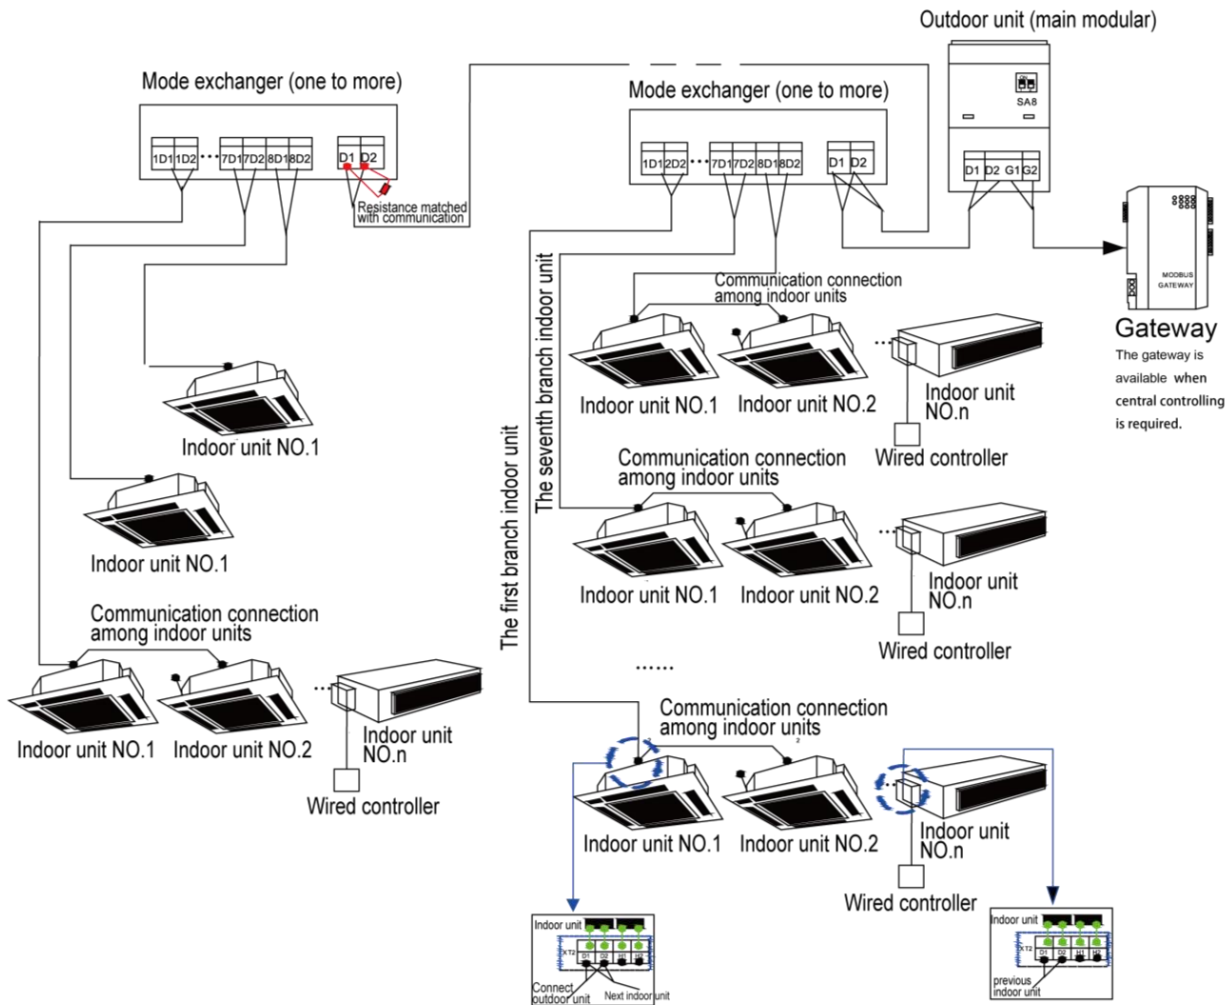

Fig. 5.11
- (1) Open electric box cover of indoor unit.
- (2) Pass the communication wire through rubber ring.
- (3) Connect communication wire to wiring board OD(D1, D2) of outdoor unit of mode exchanger.
- (4) Connect communication wire lead from D1 and D2 terminal of 4-bit wiring board of indoor unit to wiring board ID1(1D1, 1D2) of indoor unit of mode exchanger; ID2(2D1, 2D2.....ID-n(nD1, nD2),  $n \leq 8$ , As shown in fig.5.11